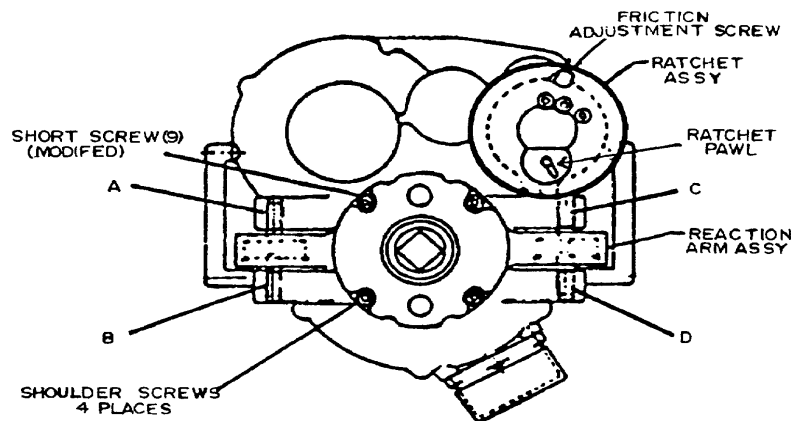

Figure 2. Torque wrench - adjustment locations.
(1) Check friction brake by carefully applying torque in small increments and ensuring that friction brake holds up to 1200 ft-lbs. If friction brake does not hold, tighten **FRICTION ADJUSTMENT SCREW** (fig. 2) to increase friction. Do not over-tighten because the friction brake must be overcome to back off torque that has been applied. Maximum torque needed to overcome brake should not exceed 75 ft-lbs.
Two ratchets are used on this TI, one on the torque wrench and one on the T-handle. Operation of the T-handle ratchet is obvious. The torque wrench ratchet operates in conjunction with the friction brake. The RATCHET PAWL (fig. 2) is labeled nut-on for cw torque and nut-off for ccw torque.
Do not attempt to reverse the RATCHET PAWL (fig. 2) with torque applied. When torque is applied cw with RATCHET PAWL (fig. 2) in nut-on position, the T-handle must be turned ccw against resistance of the friction brake to release the applied torque.
- (2) Exercise TI and load cell scale three times in cw direction.
- (3) Check cw and ccw balance of TI as follows:
- (a) Set RATCHET PAWL (fig. 2) to nut-on position.
- (d) Turn T-handle ccw to obtain a 500 ft-lb indication on TI indicator. Record indication of load cell indicator. If indication is not within 5 ft-lbs of indication recorded in (b) above, perform **b(1)** through (3) below.
- (4) Set TI for cw operation.
- (5) Turn T-handle cw to obtain a 500 ft-lb indication on TI indicator. If load cell indicator does not indicate between 485 and 515 ft-lbs (490 and 510 ft-lbs for Powerdyne, Model PD1220B), perform **b(4)** through (10) below.
- (6) Operate TI cw to obtain indications listed in table 5. If load cell indicator indications are not within limits specified, repeat (3) through (5) above.
(1) Remove sealant from adjustment screws A and B (fig. 2). Screws C and D (fig .2) should not need adjustment unless TI is disassembled for repair or overhaul.
(2) Adjust screws A and B (fig. 2) slightly by backing one out and advancing the other one-quarter turn at a time.
(3) Repeat (2) above and continue adjustment in small increments until indications are within tolerance. When correctly adjusted, screws A, B, C, and D (fig. 2) should be just touching bellows assemblies (R).
(4) Remove rubber indicator protective cover.
(5) Remove lens retaining ring and lens from TI indicator.
(6) Turn T-handle to obtain a 500 ft-lb indication on load cell indicator. Slip dial face to aline pointer with 500 ft-lb graduation on dial face (R).
(7) Turn T-handle to relieve all applied torque from TI. Indicator must indicate within green band at 0.
(8) Install lens, retaining ring, and protective cover.
(9) Repeat **a**(3) through (5) above. If TI indications are not within tolerance, repeat **b**(2) through (8) above.
(10) Reseal adjustment screws with silicon rubber sealant.